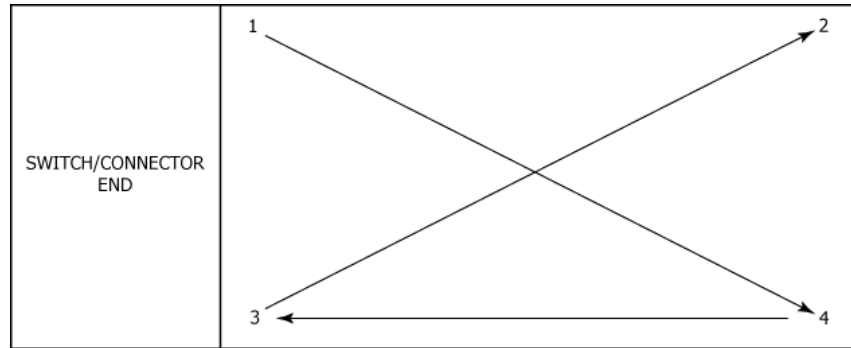

Figure 24 Battery Pack Retaining Screw Tightening Pattern
- 11) Tighten and torque the screws as shown in Figure 24 Battery Pack Retaining Screw Tightening Pattern. Torque to 6-8 lb-in (68-90 N•cm).